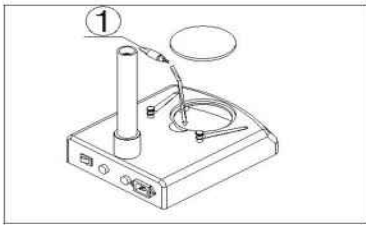

Fig.12
- 4) Recover the stage plate. (Fig.12)